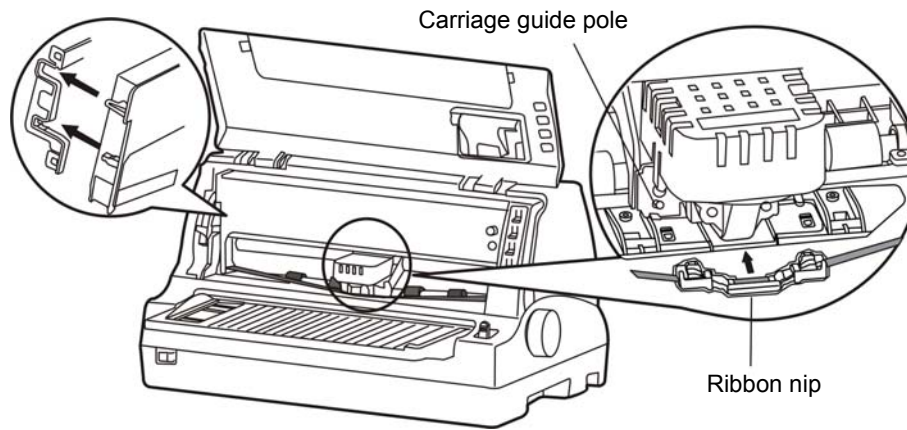

Figure 2-10 Installing the ribbon cartridge
6. As figure 2-10 shown. Hold both sides of the ribbon cartridge, then press it down firmly to fit the hooks into the install grooves of the printer. Then aim the two round holes of the ribbon nip at the two guide poles of the carriage frame.
7. Turn the ribbon knob in the direction of the arrow to remove any slack from the ribbon again, ensure that there is no crease in the ribbon core. (As figure 2-10 shown)